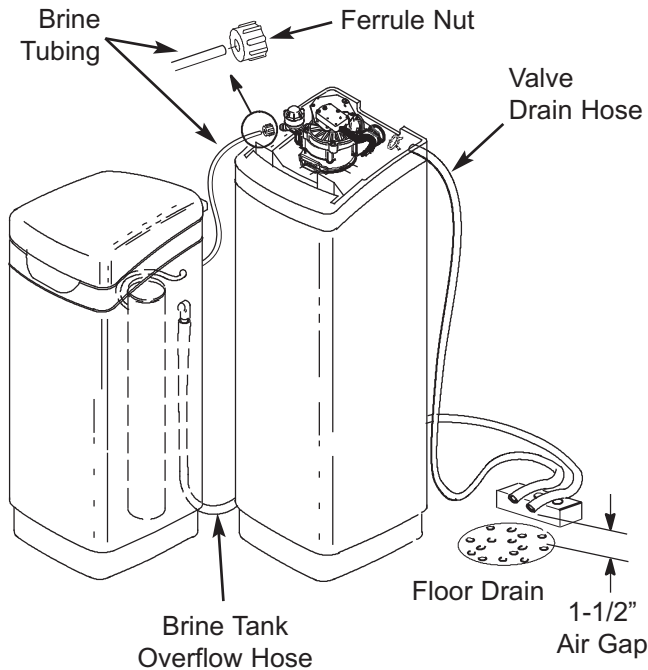

FIG. 13
- b. Connect the brine tube to the nozzle/venturi assembly using the ferrule nut provided (See Figure 13).